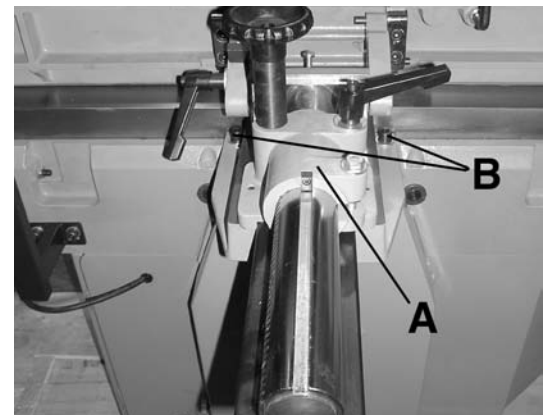

FIGURE 6
1. Assemble the fence (A) Fig. 6 to the rear of the cabinet by aligning the fence mounting holes with the holes in the cabinet, fasten the fence using 2 cap screws and washers (B).